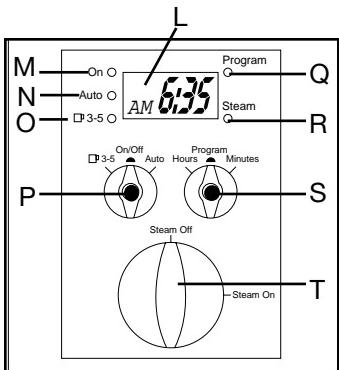

FIG. 2
(see figure 2)
Turn and hold the program knob to the left (hours) to set the hours (see fig. 2; S). While you are doing this, watch the AM change to PM. Then turn and hold the program knob to the right (minutes) and set the minutes (see fig. 2; S).
- a. Push the program button (see fig. 2; S). The Program light (see fig. 2; Q) will go on and the display will show "AM 12:00".
- c. To change the programmed time, push the program button (see fig. 2; S). It will show the programmed time. Then set the time as described above in step b.
(see fig. 2; L)